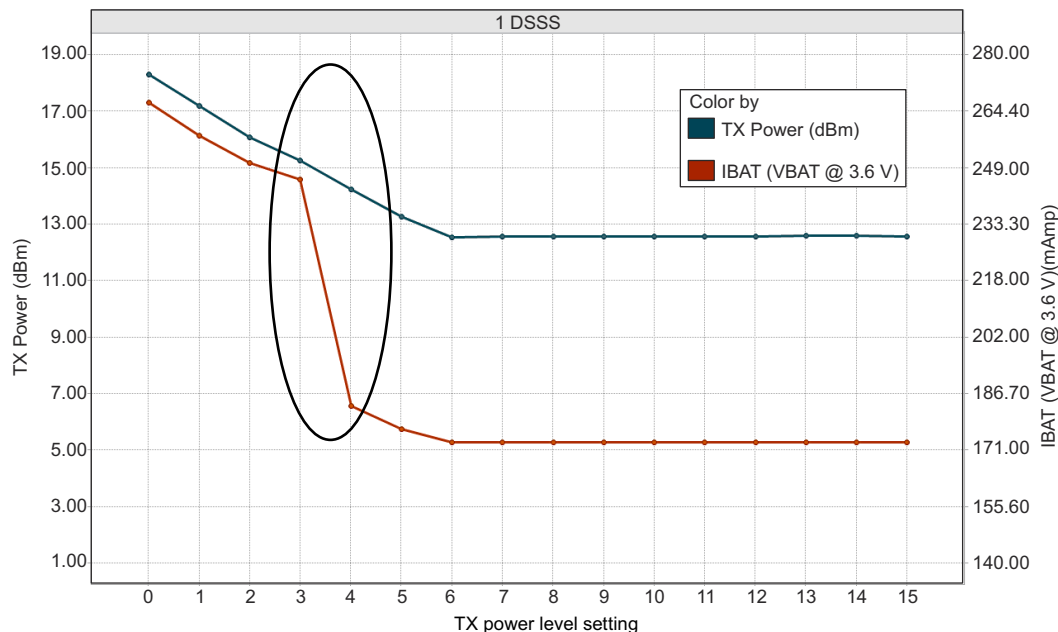
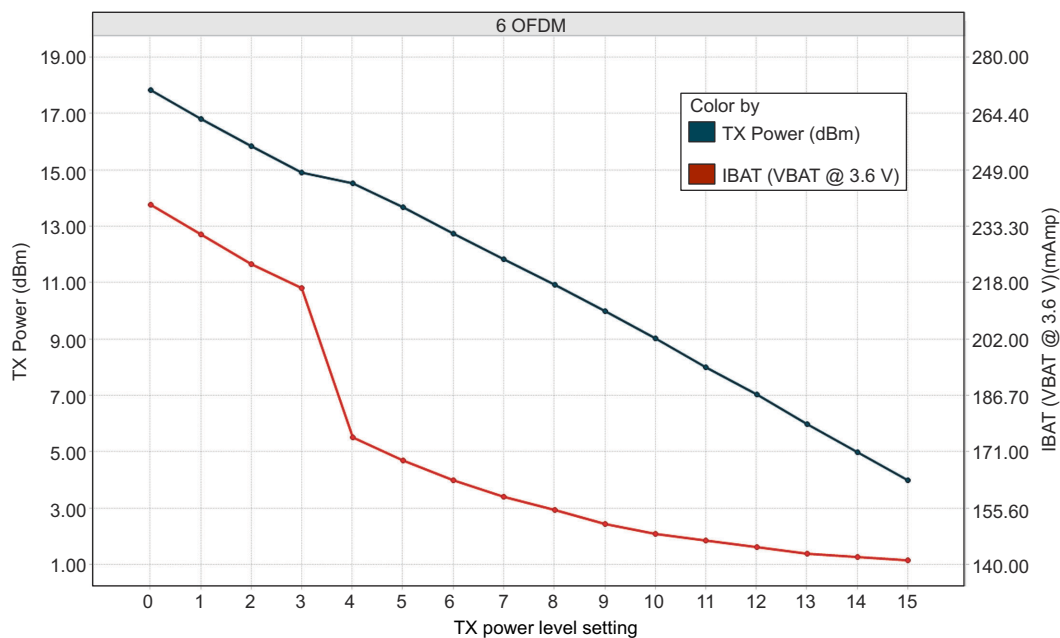
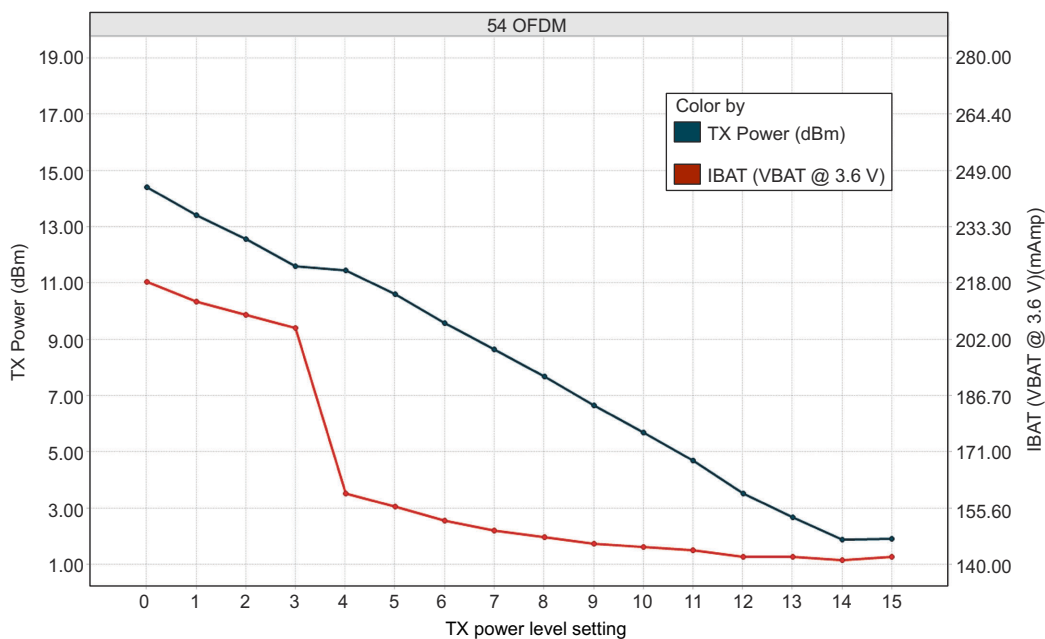

图 8-1. TX Power and IBAT vs TX Power Level Settings (1 DSSS)
图 8-2. TX Power and IBAT vs TX Power Level Settings (6 OFDM)
图 8-3. TX Power and IBAT vs TX Power Level Settings (54 OFDM)
(1) TX power level = 0 implies maximum power (see 图 8-2, 图 8-2, and 图 8-3). TX power level = 4 implies output power backed off approximately 4 dB.
(2) LPDS current does not include the external serial flash. The CC3235MODx and CC3235MODAx can be configured to retain 0 KB, 64 KB, 128 KB, 192 KB, or 256 KB of SRAM in LPDS. Each 64-KB block of MCU retained SRAM increases LPDS current by 4  $\mu\text{A}$ .
(3) DTIM = 1
(4) The complete calibration can take up to 17 mJ of energy from the battery over a period of 24 ms. Calibration is performed sparingly, typically when coming out of HIBERNATE and only if temperature has changed by more than 20°C. The calibration event can be controlled by a configuration file in the serial flash.
(5) Typical numbers assume a VSWR of 1.5:1.
图 8-1, 图 8-2, and 图 8-3 show TX power and IBAT versus TX power level settings for the CC3235MODS module at modulations of 1 DSSS, 6 OFDM, and 54 OFDM, respectively. For the CC3235MODSF module, the IBAT current has an increase of approximately 10 mA to 15 mA depending on the transmitted rate. The TX power level remains the same.5
In 图 8-1, the area enclosed in the circle represents a significant reduction in current during transition from TX power level 3 to level 4. In the case of lower range requirements (14-dBm output power), TI recommends using TX power level 4 to reduce the current.